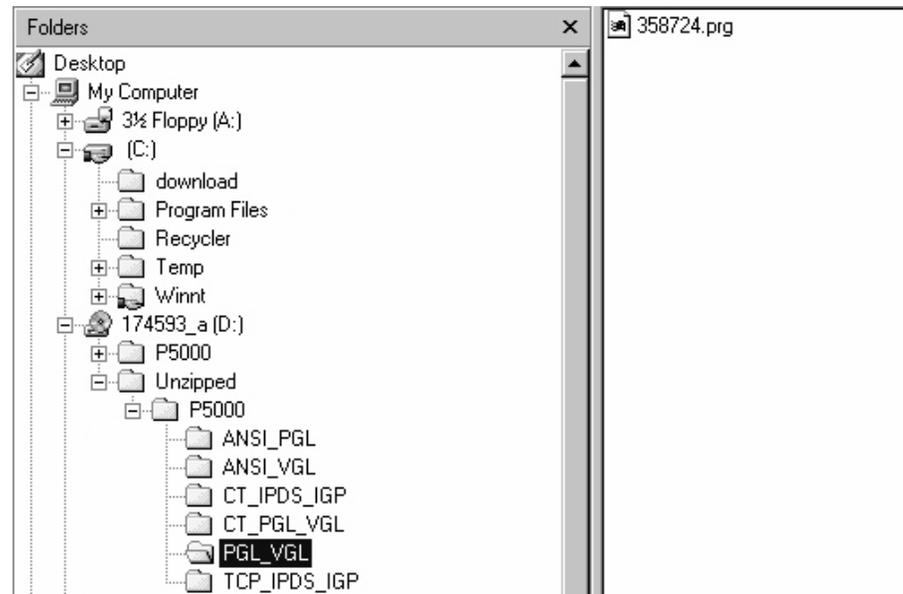

Figure 13. Navigating to the Appropriate Emulation File on the CD-ROM
9. Using Windows Explorer, navigate to the file in the Unzipped directory on the CD-ROM that matches the printer model number and emulation you want. (For example, Unzipped ▶ P5000 ▶ PGL_VGL is shown in Figure 13. Your printer and emulation will be different, of course.)
10. Note the filename, which is a six digit number plus **.prg**. (For example, 358724.prg is shown in Figure 13. Your filename may be different, of course.)